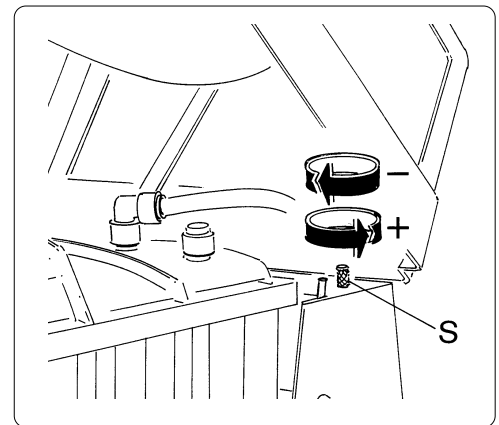

Fig. 13
Use the dial (S) as shown in fig. 13 to alter the consistency of the ice slush.